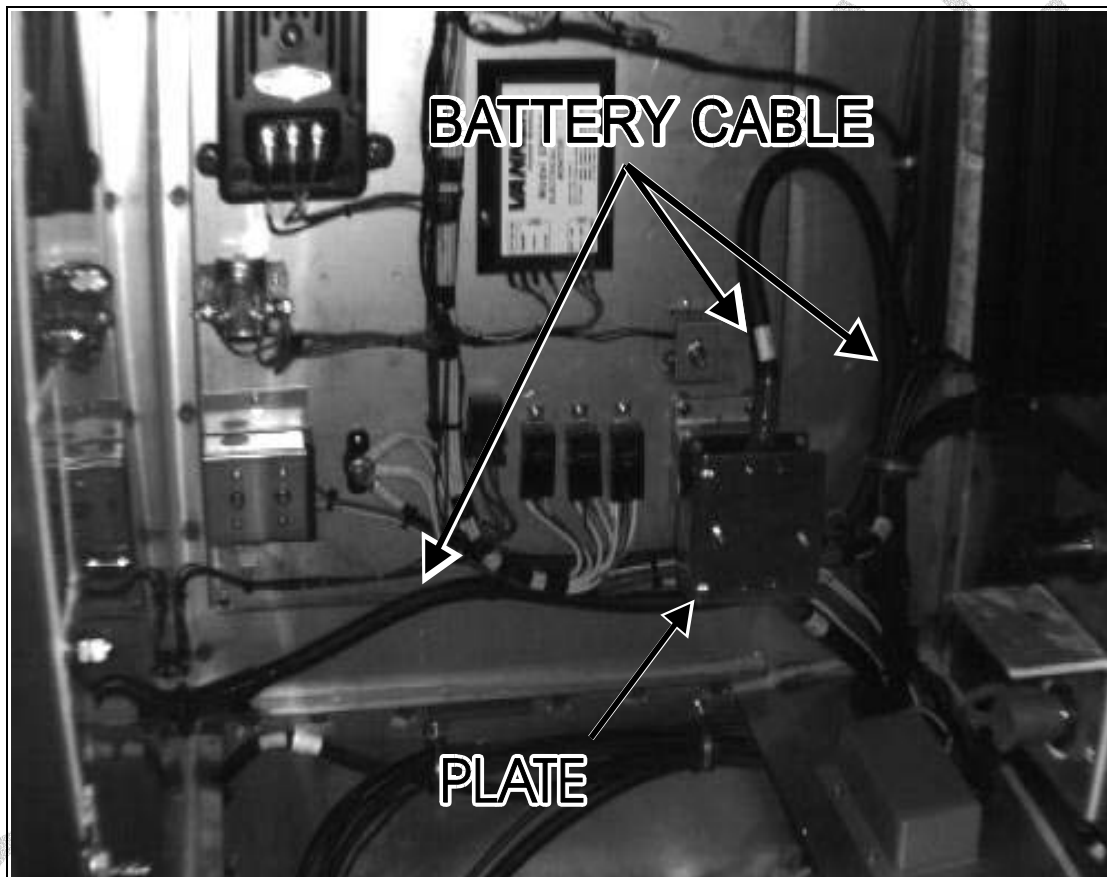

FIGURE 2: MAIN POWER COMPARTMENT
2. Remove damaged starter cables, on terminal 1 (positive). To remove completely battery cable, follow it from starter to the opposite end. For example, on H3 vehicles, opposite end of battery cable is located in main power compartment (Fig. 2) under a plate. To remove the cable, unscrew the two retaining screws and the nut on plate.
5. Fix on plate (Figure 2, H3 vehicles), the opposite end of battery cable (not starter's end and for proper number check in the above table). If applicable, reinstall plate with retaining screws.